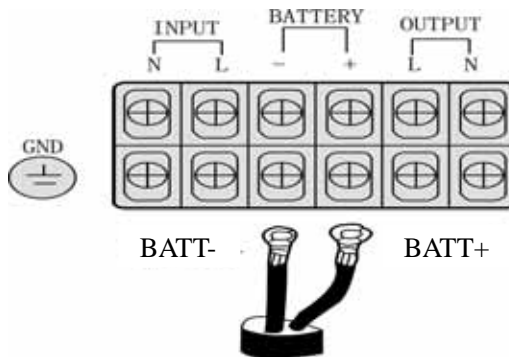

Figure 17
2. Connection way and position, please refer to figure 17.